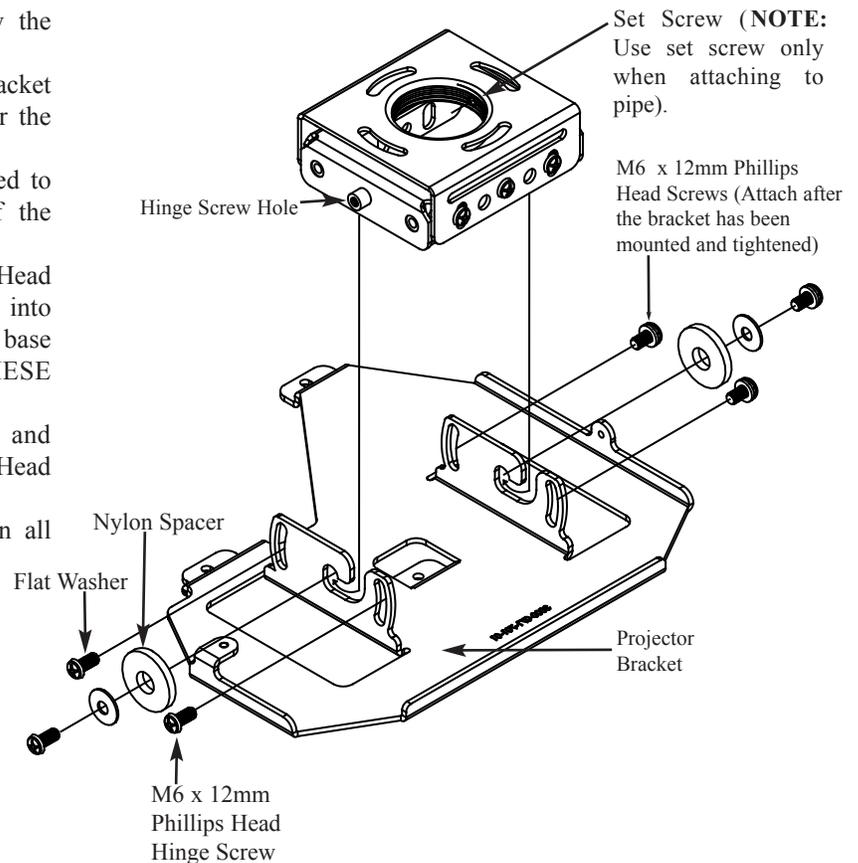

Figure 4
1. Raise the projector (with the mounting bracket attached) and hook the projector bracket over the hinge screws (Figure 4).
2. Loosely install the two (2) M6 x 12mm Phillips Head Hinge screws, flat washers and nylon spacers into the hinge holes, located on each side of the base box (Figure 4). **DO NOT TIGHTEN THESE SCREWS!**
3. Once the mount is safely attached, insert and tighten the four (4) M6 x 12mm Phillips Head Screw (Figure 4).